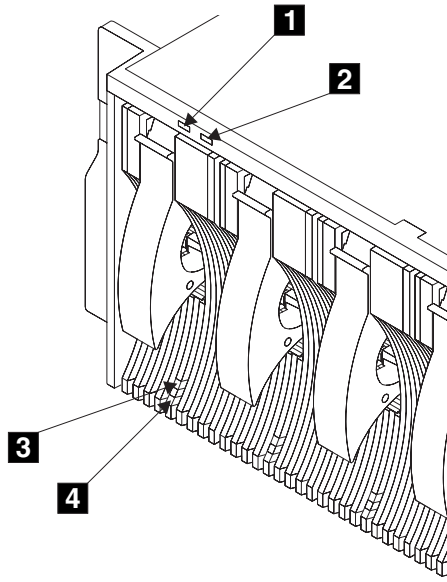

Figure 19. Checking the Lights
2. Refer to Figure 19.
Configuration is complete when the lights on the 2104, and its installed disk drive modules, are as described here (refer to Figure 19):